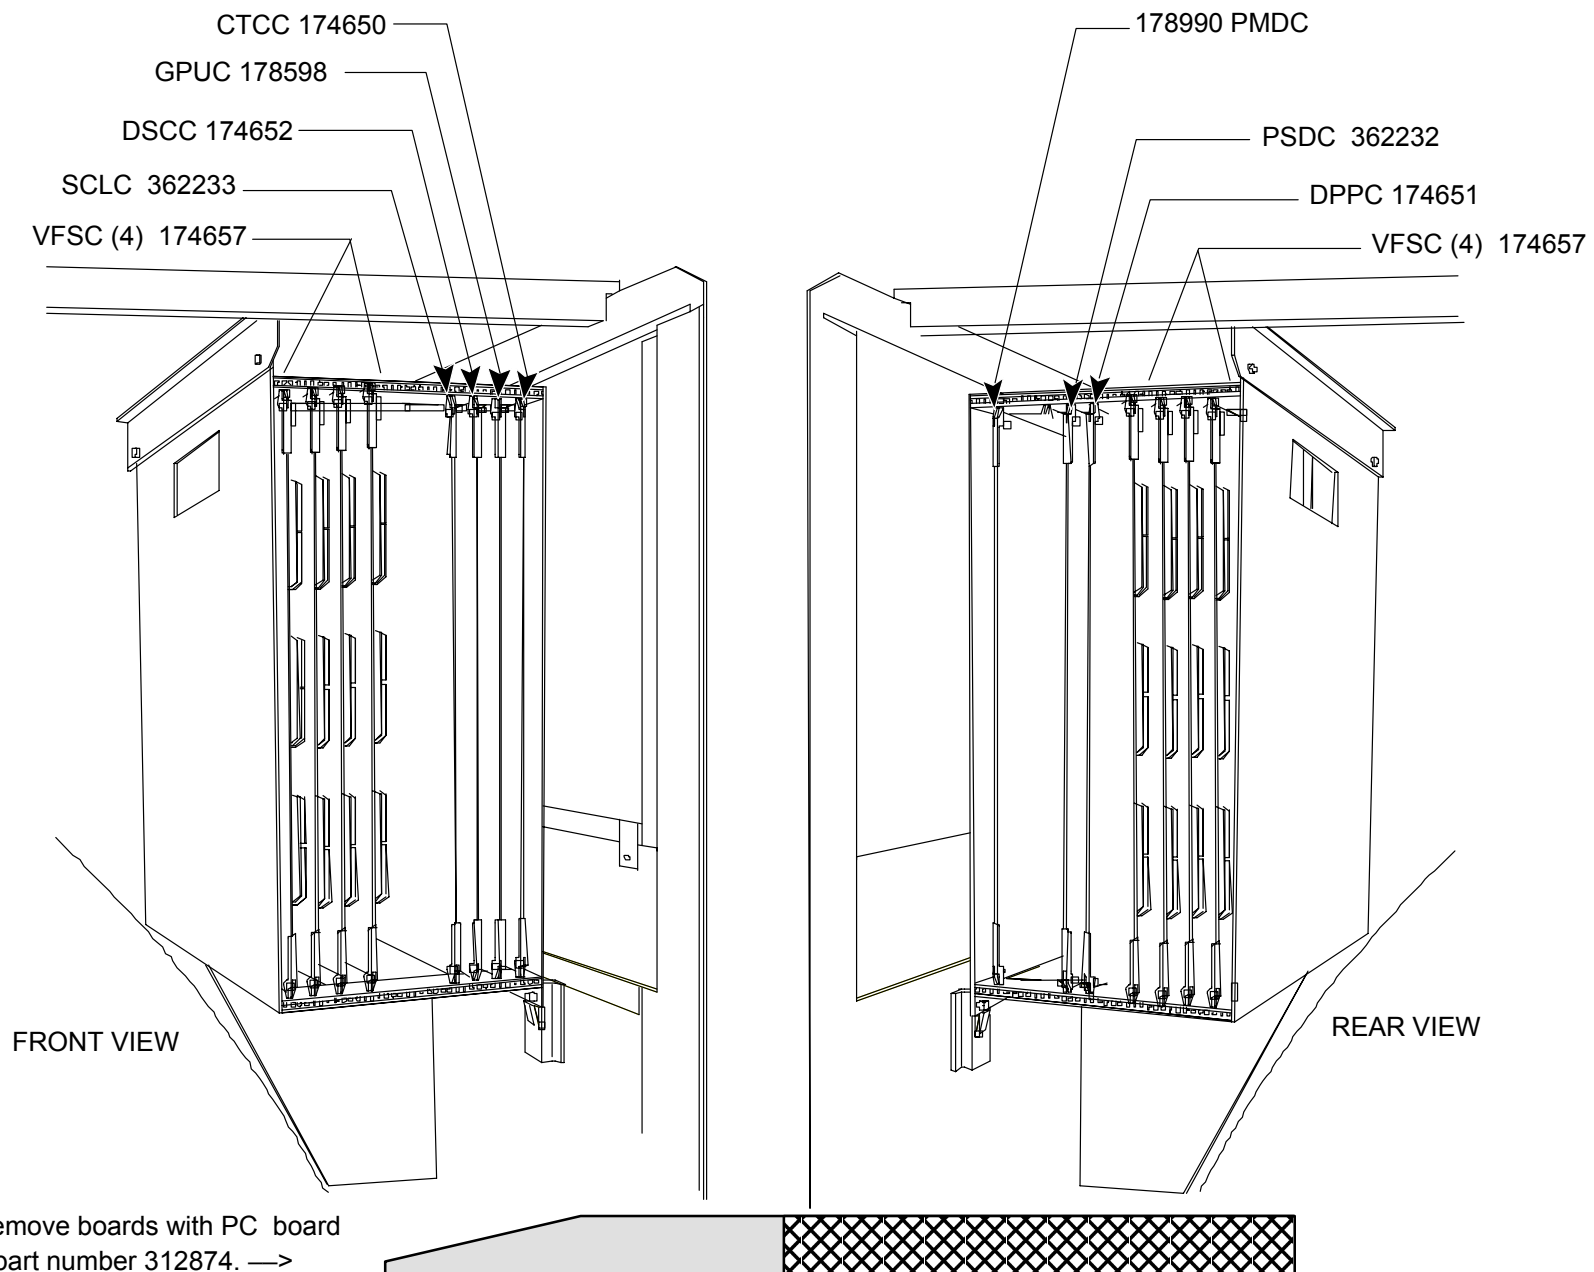

FIGURE 295 AcQSim CT Board Locations
4. Discharge your body static electricity. Use a Wrist Strap and Ground Wire connected to the grounded Chassis. Board locations can be seen in Figure 295.